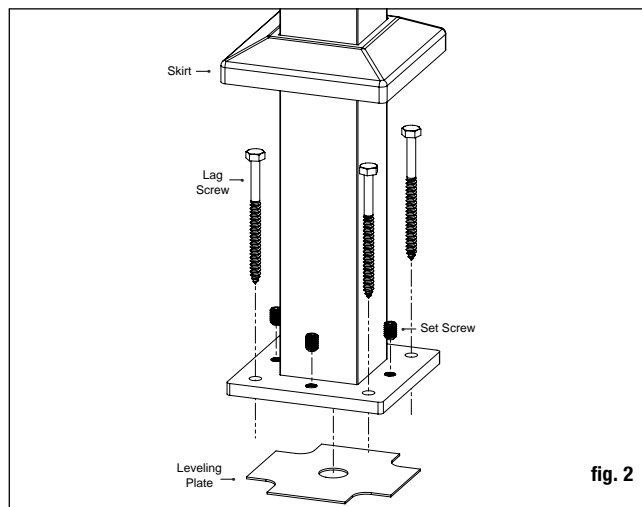

fig. 2
*Note: When installing aluminum post on top of a wood surface, screws must be lagged into at least 3" of solid wood (not including the decking). 5/4" or 1 1/2" deck boards do not provide sufficient material for a safe installation. If necessary, add additional material to the underside of the surface (fig. 2).*